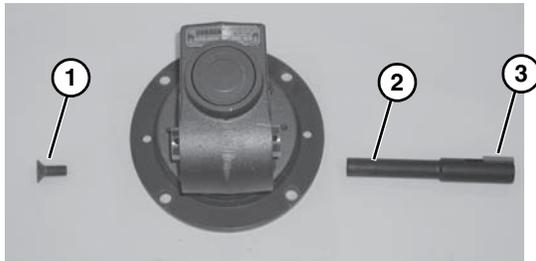

Figure 35
- Remove shaft locking screw (**Figure 35, item 1**), remove gear reducer output shaft (**Figure 35, item 2**) and key (**Figure 35, item 3**).
Output shaft (**Figure 35, item 2**) is held in Gear Reducer with a tapered press fit. Removal may require use of an arbor press.
- Insert the new shaft with key (**Figure 35, item 3**) into new gear reducer.